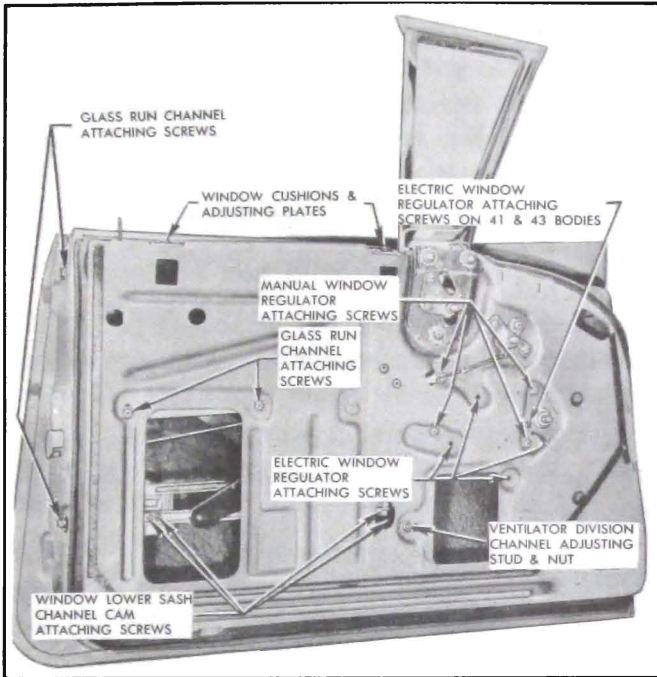

Figure 13-39—Front Door Window—Rivieras and Convertibles
2. Remove window cushion adjusting plates, Figure 13-39.
3. To adjust the lower portion of the ventilator division channel for alignment with the window, loosen ventilator division channel adjusting stud nut, Figure 13-39. Turn adjusting stud in or out or position lower end of channel fore or aft, as required; then, retighten adjusting stud nut.
2. Remove glass run channel attaching screws, Figure 13-39.
2. Remove window lower sash channel cam attaching screws, Figure 13-39, raise window and prop in up position.
6. Remove window regulator attaching screws. On 41 and 43 bodies equipped with electrically operated window regulator remove regulator attaching screw indicated in Figure 13-39. Carefully work regulator assembly through rear access hole and remove from door.